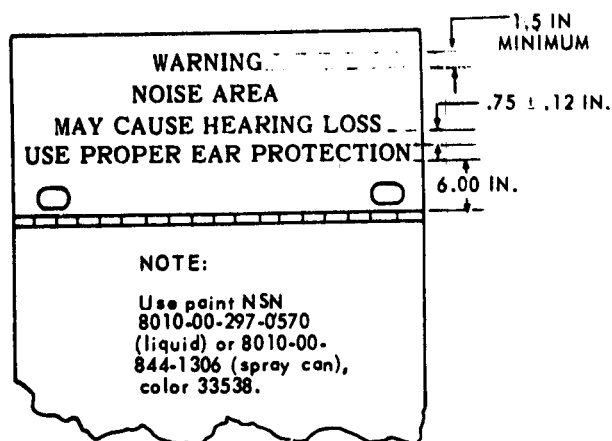

Figure 2-1A. Noise Level Warning Sign
b. Assure that a noise level warning sign is stenciled on the top half of both rear (generator end of set) side doors (Figure 3-14, 7) as shown in Figure 2-1A.